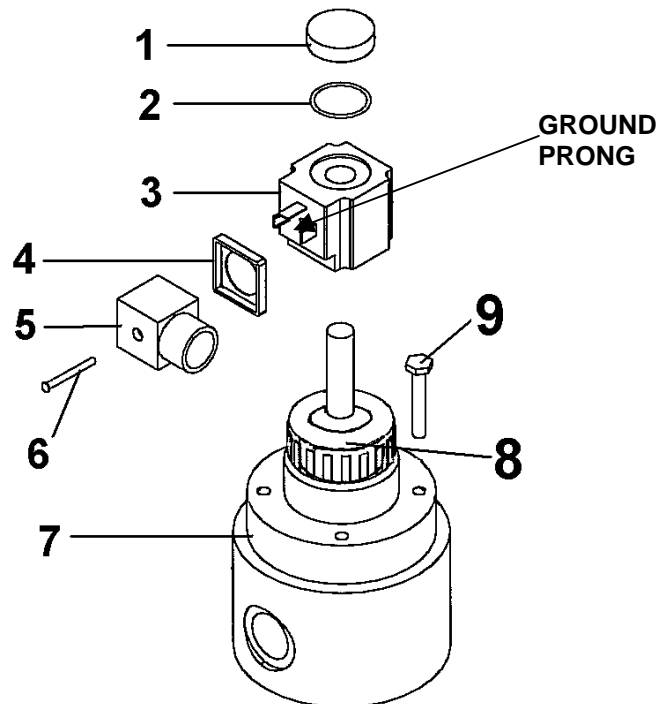

Figure 1. Solenoid Valve (Exploded View).
1. Remove the cap nut (1) and O-ring (2) and slide the coil (3) off from the valve (7). See Figure 1.
2. Remove the screw (6) from the electrical connector (5)
4. Disconnect electrical connector (5) from the coil (3).
1. Inspect the O-ring (2) and the gasket (4) for serviceability.
- b. Measure the resistance across the two spade terminals (facing each other). Not the ground (top flat prong) (See Figure 1). It should read between 108 and 132 Ohms. Replace the coil otherwise.
1. Refer to figure 1 for this procedure section.
2. Connect the wires to the electrical connector (5) if needed.
3. Connect the electrical connector (5) and gasket (4) to the coil (3).
4. Slide the coil (3) on to the shaft on the valve (7).
5. Secure the coil with cap nut (1) and O-ring (2).